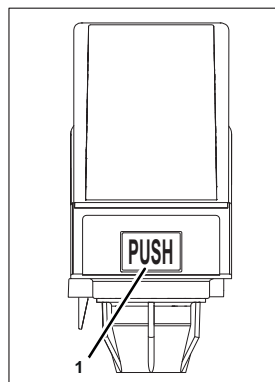

Fig. 11
2. Press and hold the “PUSH” button (Fig. 11/1).
3. When the required fill quantity has been reached, stop dispensing by releasing the “PUSH” button (Fig. 11/1).